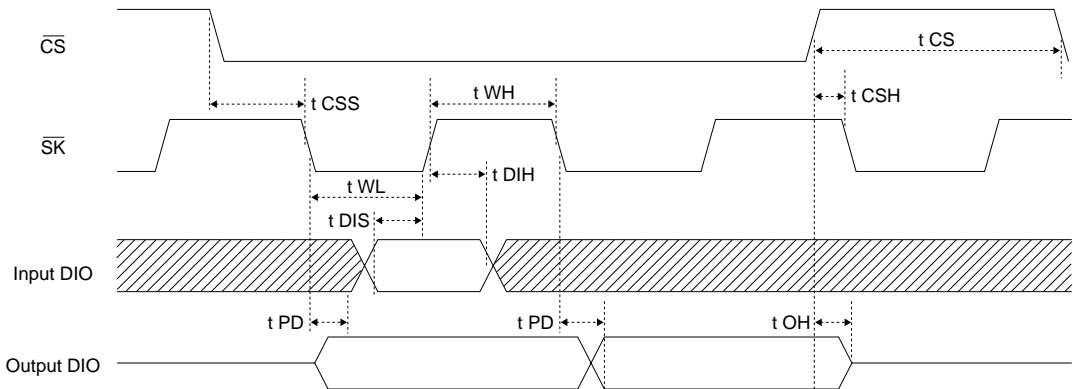

Fig. 10 Synchronous data I / O timing
- 1) When the Wiper Counter Data Output (WCR) command is received, seven bits of the data at the current wiper position are output to D8, D9, D10, ..., D14, in sequential order. If a clock of longer than 24 clocks is input, indefinite data may be output. (For the DIO output, the data may change at the t_{PD0} and t_{PD1} time delays, in response to the internal circuit delay starting from the falling edge of the \overline{SK} signal. During the t_{PD0} and t_{PD1} time internals, data should be loaded after the t_{PD} time has been assured, in case the previous data is indefinite. Refer to Fig. 10, Synchronous data I / O timing.)
(3) Wiper counter data input (WCW)